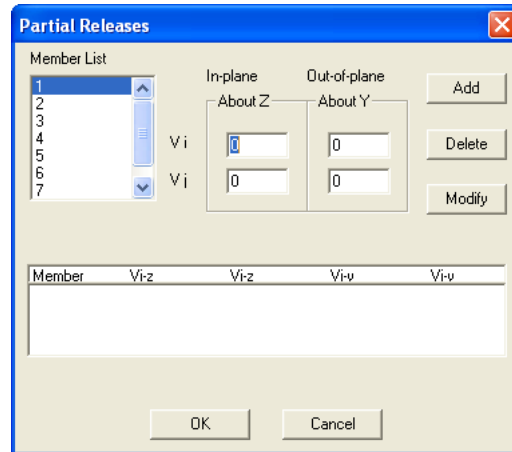

Figure 3-26 Partial Releases dialog box
- From the **Process** menu, select **Partial Releases**. The dialog box of Figure 3-26 appears. Some options may not be available depending on the structure type selected.